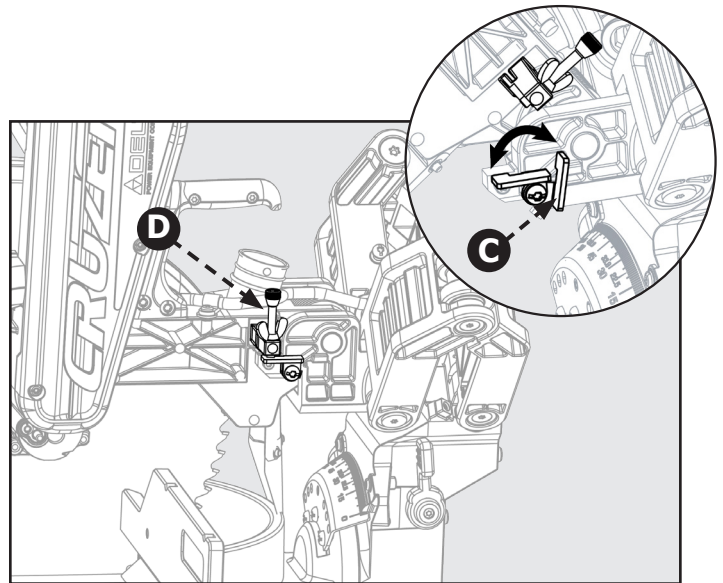

Figure 32
**Refer to Figure 32 and follow these instructions in order to set the depth stop at a specific cut depth:** rotate the stop bracket (C) counterclockwise into the down position. The cut depth can now be adjusted by turning the depth adjustment screw (D).
**Refer to figure 32 and follow these instructions in order to make a through cut:** rotate the stop bracket (C) clockwise into the up position.